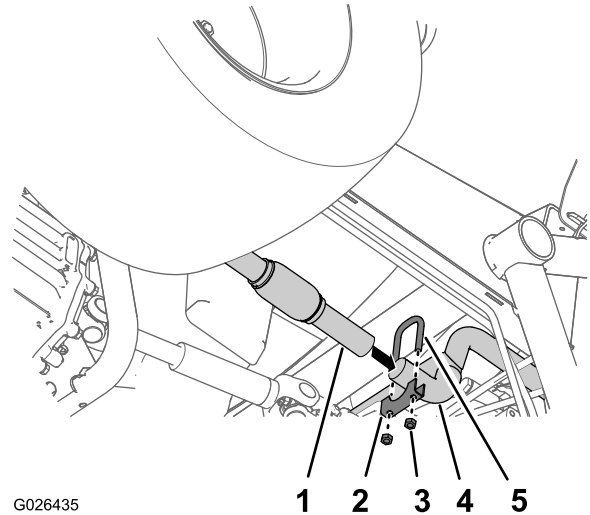

Figure 10
1. Clean the outer surface at the open end Y-pipe (Figure 10).
2. Slip the end exhaust pipe (near the flex joint) over the end of the Y-pipe until the Y-pipe is fully seated into the exhaust pipe (Figure 10).
4. Assemble a U-bolt (1-1/4 inch), a saddle bracket (1-1/4 inch), and 2 nuts at the joint for the exhaust pipe and Y-pipe (Figure 10).